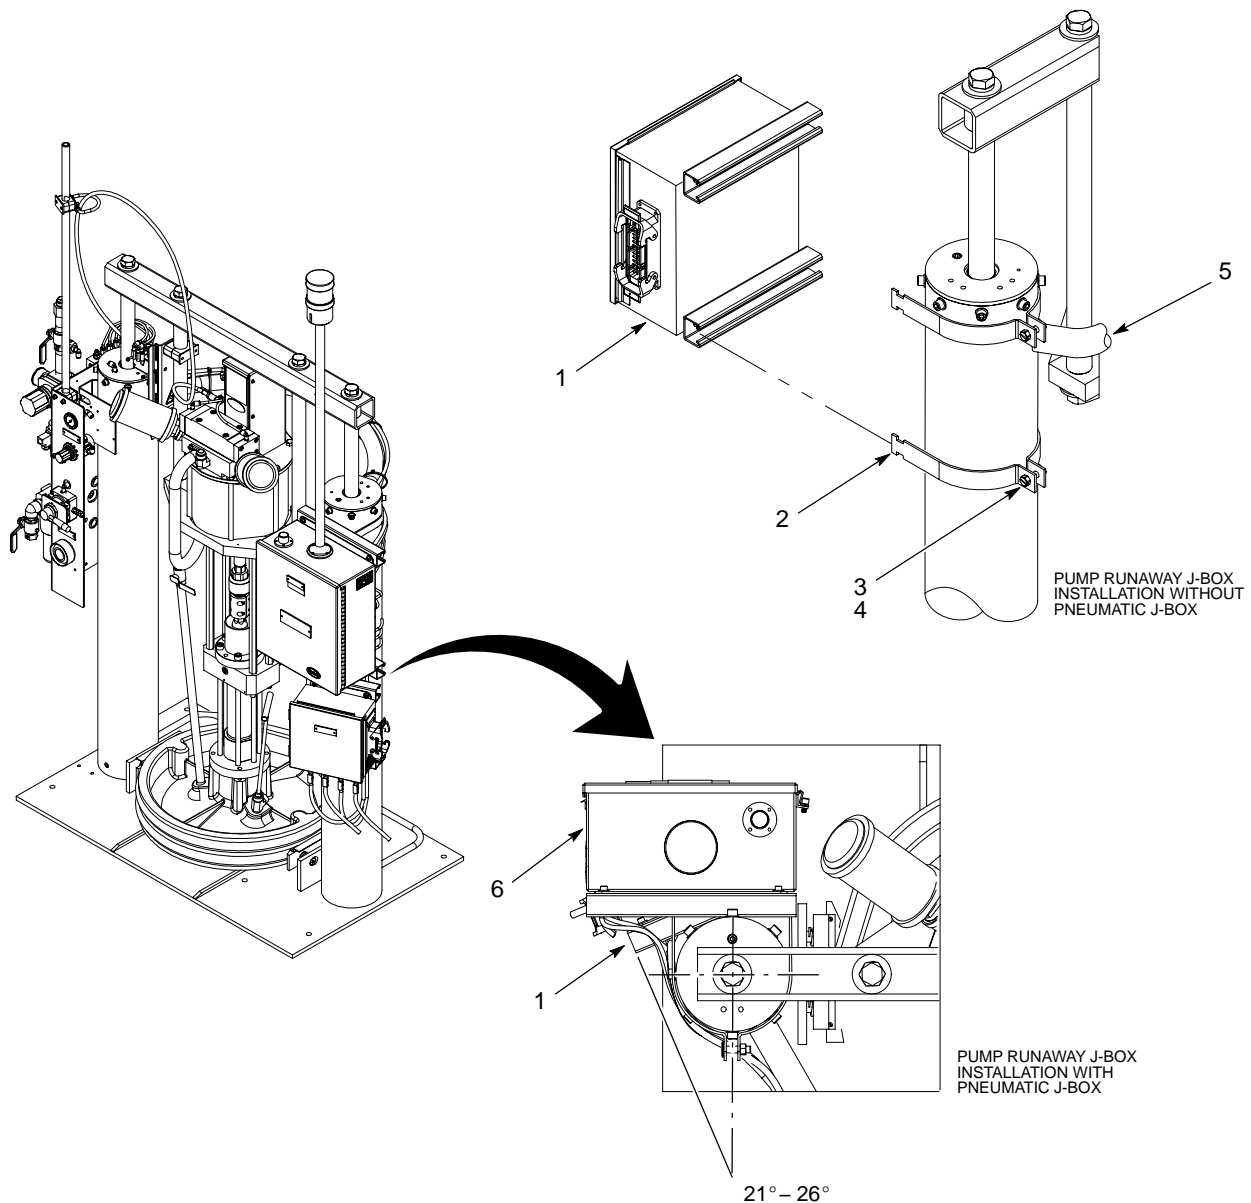

Figure 2 Installation
1. See Figure 2. Loosen the nuts (3) and screws (4) on the clamps (2).